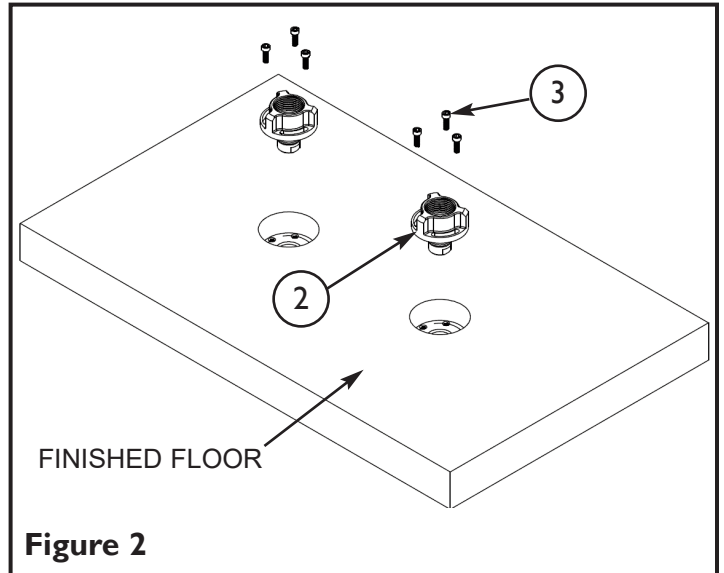

Figure 2
2. Remove the QUICK CONNECT ADAPTERS (2) from the rough by removing all six #8-32 SCREWS (3) with a 9/64" hex. See **Figure 2**